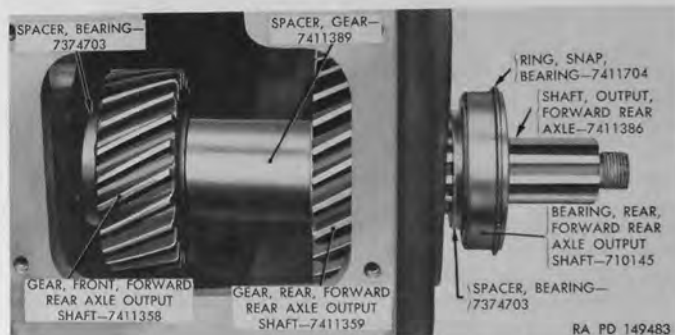

Figure 57. Removing forward rear axle output shaft and gears.
c. Drive forward rear axle output shaft (AU) rearward with soft metal hammer. As shaft moves out of case, rear bearing assembly and spacer (fig. 57) will be carried with shaft. When rear bearing assembly is free from bore in case, support gears and pull shaft out of gears. Remove gears and spacers (fig. 57) from inside transfer case.
d. Remove forward rear axle output shaft front bearing (AW) from bore in case.